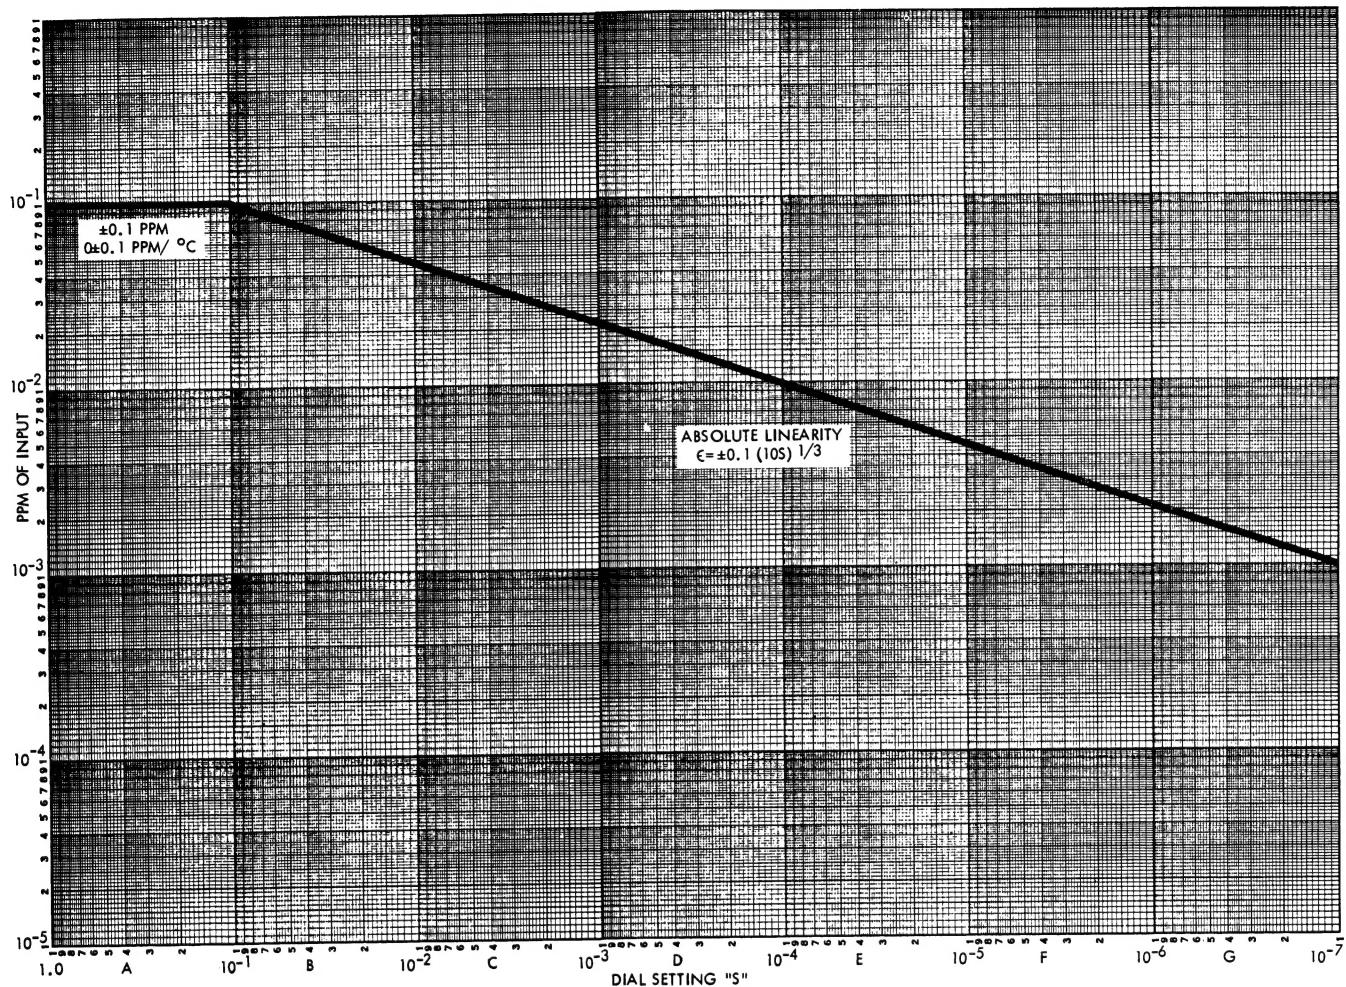

Figure 1-1. ABSOLUTE LINEARITY
\pm 0.1 (10S) $^{1/3}$ of input at dial settings (S) of 0.1 to 0. (See Figure 1-1.)